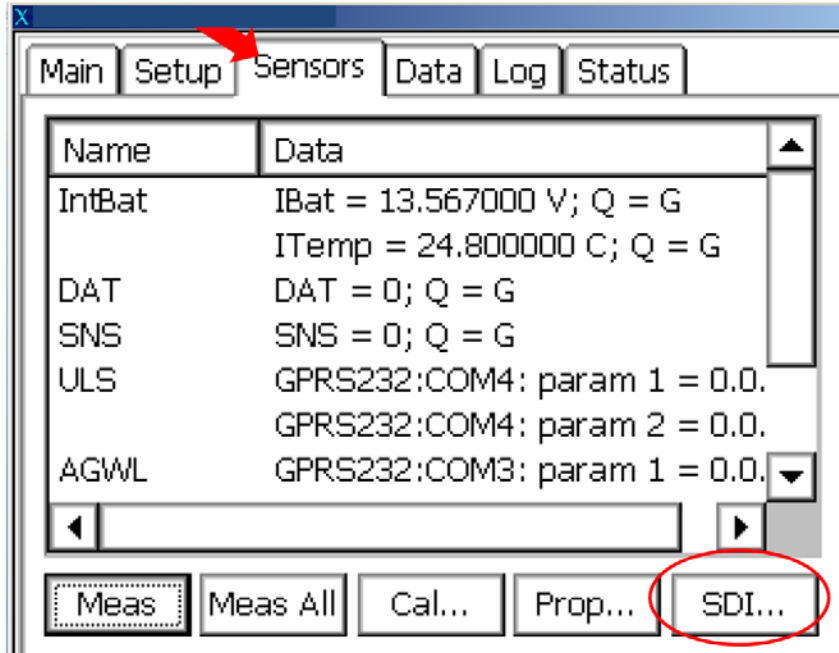

Figure 3-21. Select Sensors, then click SDI.
1. Select the **Sensors** tab and then click the **SDI-12** button (fig. 3-21).